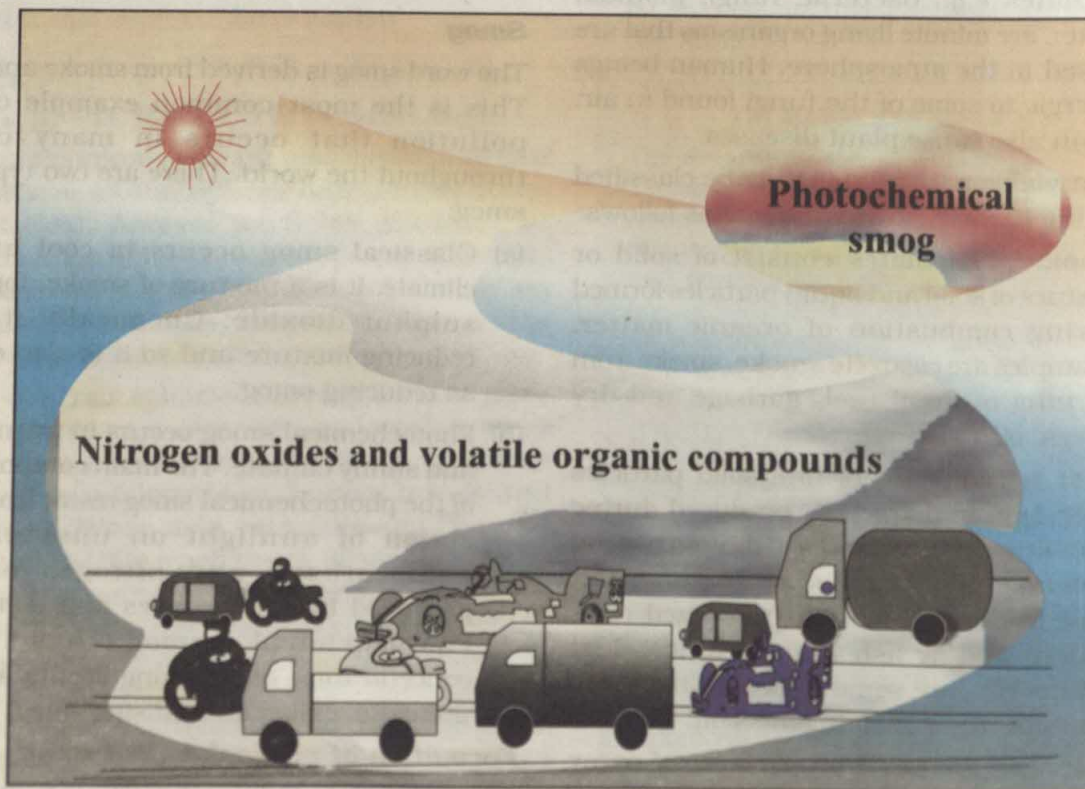

Fig. 14.2 Photochemical smog occurs where sunlight acts on vehicle pollutants.
troposphere. Two of the pollutants that are emitted are hydrocarbons (unburnt fuels) and nitric oxide (NO). When these pollutants build up to sufficiently high levels, a chain reaction occurs from their interaction with sunlight in which NO is converted into nitrogen dioxide (NO2). This NO2 in turn absorbs energy from sunlight and breaks up into nitric oxide and free oxygen atom (Fig. 14.2).